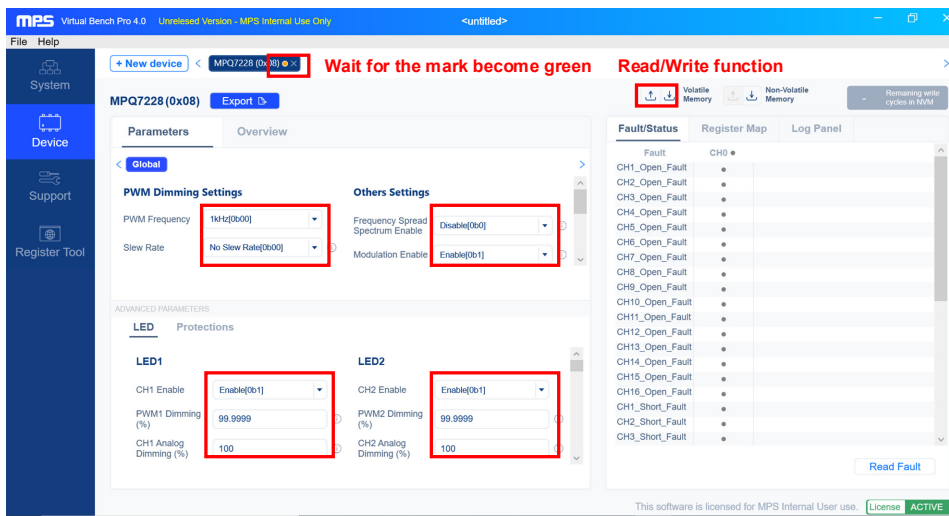

Figure 6: Read and Write in Virtual Bench
12. Connect the USB cable to the computer. When the circle next to the MPQ7228 becomes green, it means the communication interface is connected to the computer. When the remaining write cycles in the NVM becomes 0, this means that the VBPro is connected to the MPQ7228. The user can click the “Volatile Memory” button to read and write to the register (see Figure 6).